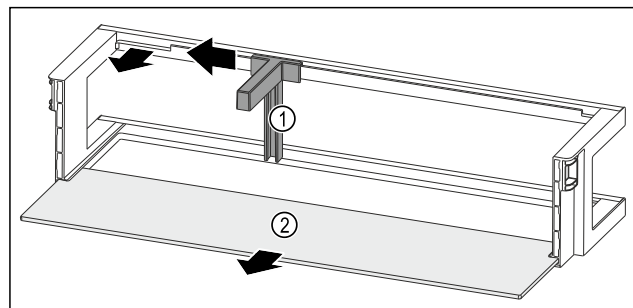

Fig. 97 Door rack with bottle holder and shelf
- Slide the bottle holder Fig. 97 (1) to the side as far as the recess.
- Remove the bottle holder Fig. 97 (1).
- Remove the shelf Fig. 97 (2).